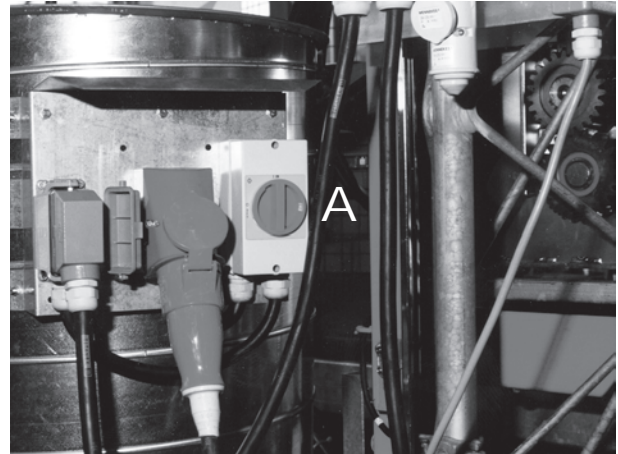
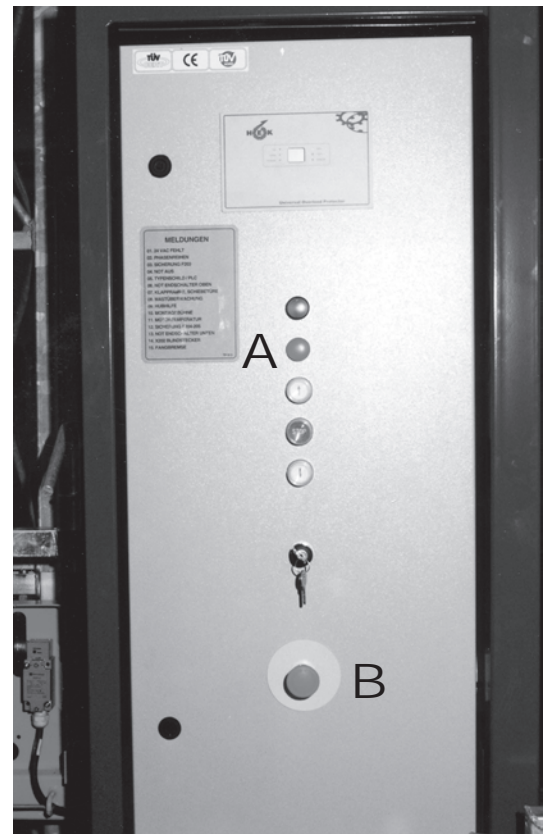

Fig.7-05 Main switch on cable drum
Fig.7-06 Platform control box
2. Check whether the machine is connected to the mains. Check the position of the main switch on the cable drum (fig. 7-05, A) and ensure that the green indicator lamp on the platform control box (fig. 7-06, A - security circuit closed) is lit. If not, check whether the emergency stop button (fig. 7-06, B) on the platform control box has been pressed, a landing barrier has not been closed correctly or the dummy plug (for use in combination with the ground station control box) has been installed.